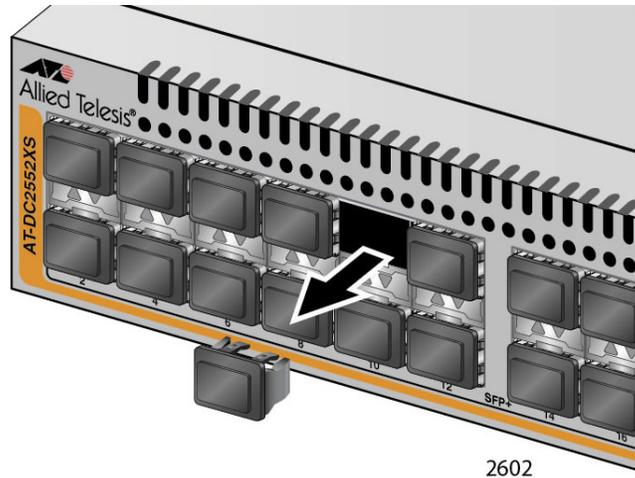

Figure 24. Removing the Dust Plug from a SFP+ Slot
1. Remove the dust plug from a SFP+ slot on the switch. Refer to Figure 24.